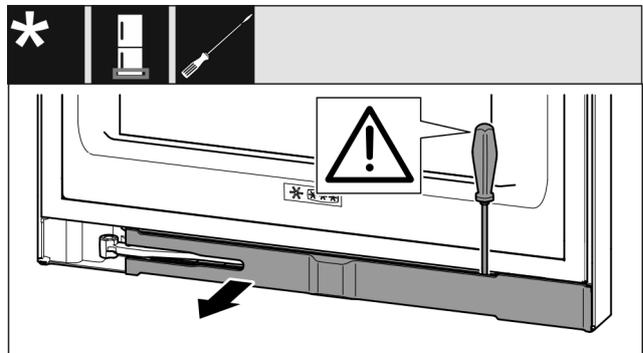

Fig. 16
- ▶ Use a slotted screwdriver to unlatch the trim and swing it to the side. (see Fig. 16)